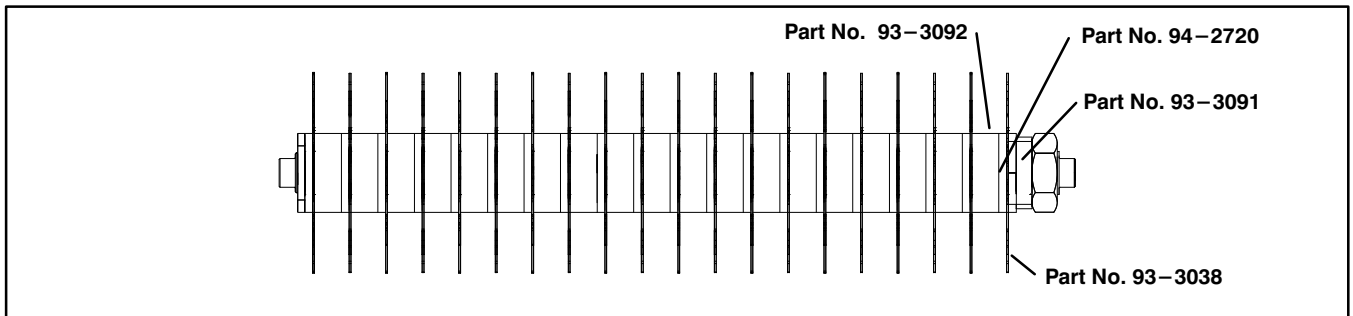

Figure 13
1-1/4" Spacing – Requires (20) Blades (part no. 93-3038), (21) 1/4" Thick Spacers (part no. 94-2720) and (19) 1" Thick Spacers (part no. 93-3092) (Fig. 13).